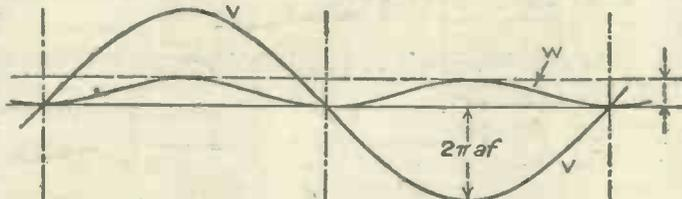

Fig. 1.—Graph showing relation between pressure energy and pressure distribution.
Now throughout the system at the instant when the whole energy is kinetic, the velocity is distributed harmonically; let this be represented as in Fig. 1, as a sine curve V , the loops being alternately positive and negative. Then velocity² is represented by another sine curve of twice the frequency W , which is wholly positive, clearly the mean height of this is half the maximum, so that the actual energy (per cu. ft.) will be half that given by expression (1):—
The pressure distribution is harmonic, and the pressure energy is proportional to the square of the pressure. Thus we may read the graph V , Fig. 1, as showing pressure, of which the loops are alternately positive and negative according as the pressure is above or below atmosphere. The energy is proportional to the graph W , the mean ordinate of which is half the maximum. As representing pressure the maximum (of the superposed system) is